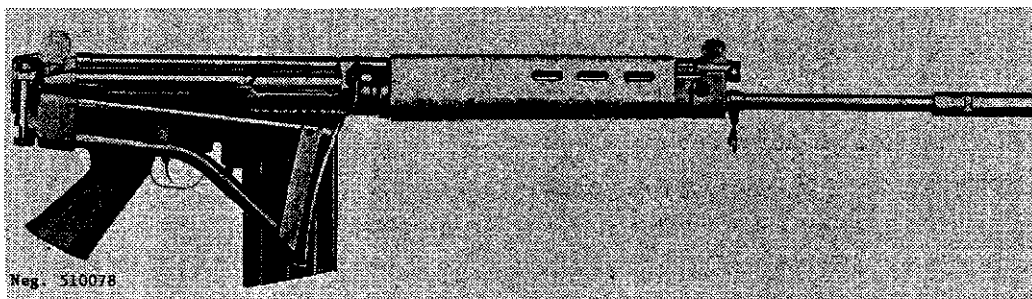

Figure 79. FN/FAL paratrooper's model.
c. All FAL's use the same basic design mechanism, except for the folding-metal-stock parachutist version (fig 79). This model has its driving spring housed in the top of the bolt carrier instead of in the butt stock.